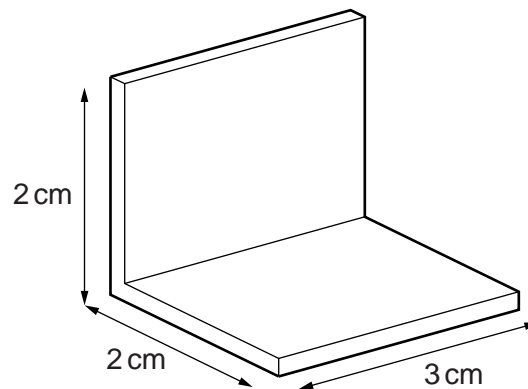

Fig. 2.2
- 2 The bracket should be made from stiff card, wood or metal and have approximate dimensions as shown in Fig. 2.2.